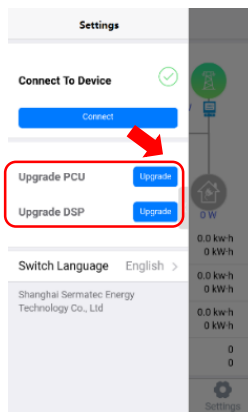
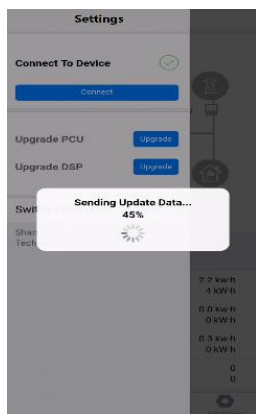
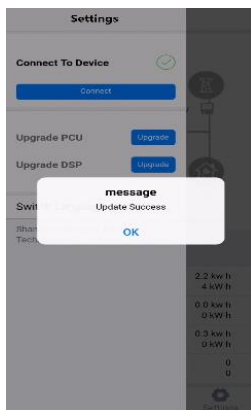

Figure 4-9
Figure 4-10
Figure 4-11
4.Tap "Upgrade" . Enter the confirmation password "sermatec2015" The software will be upgraded. ( Figure 4-9, Figure 4-10, Figure 4-11)